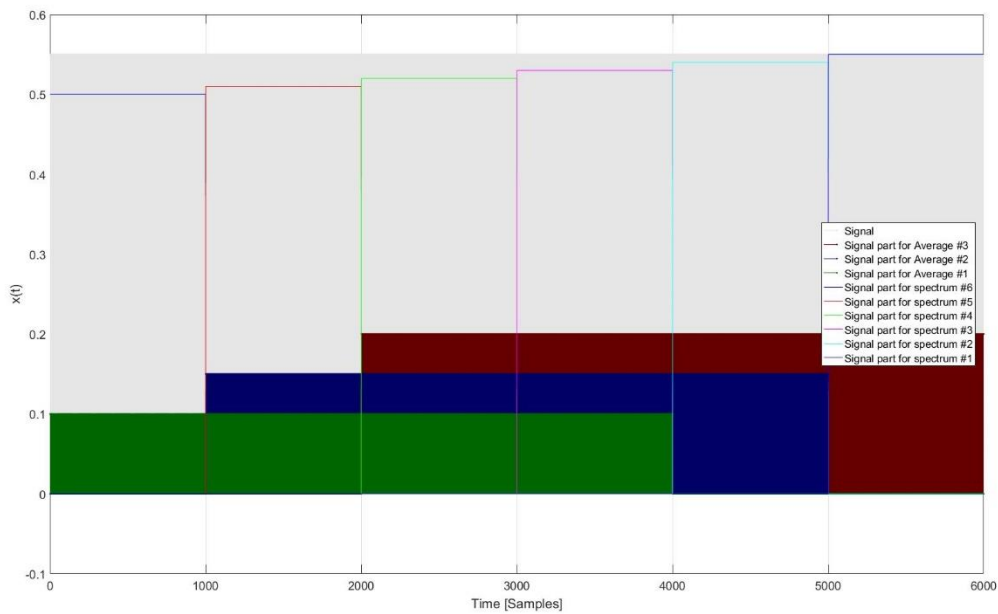

Figure 6-58: Decomposition of the time signal for a Periodogram with an average of 4 spectra and 0% overlapping
- Figure 6-58: periodogram with an average of 4 spectra and 0% overlapping